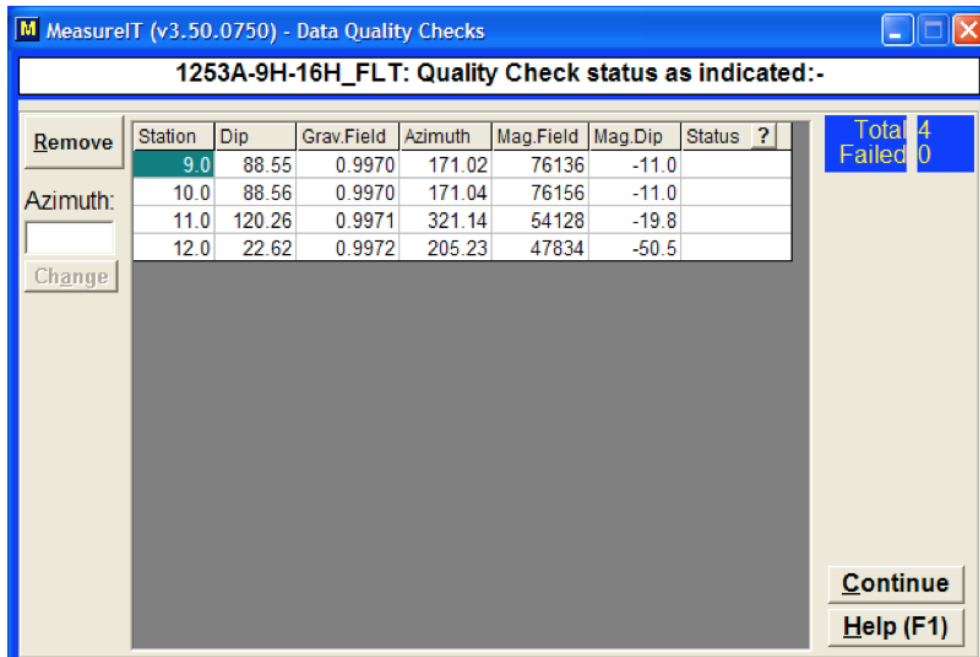

Figure 15 Final results (for our purposes, "Station" = measurement every 6 seconds)
10. The final screen will reveal the results of the survey (**Figure 15**). You can review both the raw and processed survey files by navigating to the file location you specified as shown in Fig. 1B. All files are in ASCII text despite the file type suffix (.rsy=raw survey, .svy=data-reduction results, .csy=continuous survey, .dtf=depth/time file). Select **Continue**.